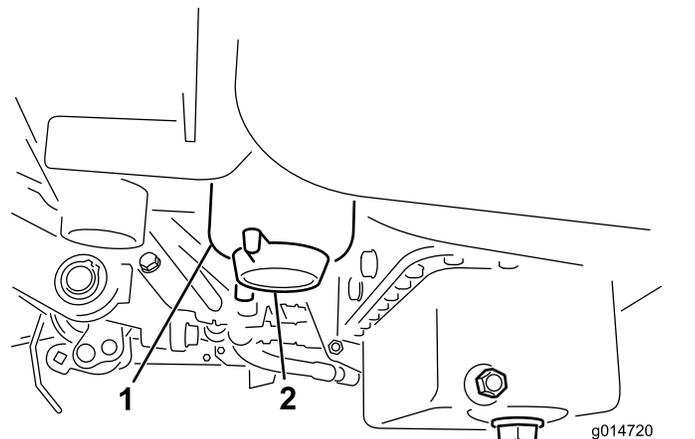

Figure 37
2. Clean the area where the filter canister mounts (Figure 37).
4. Open the filter drain plug (Figure 37).